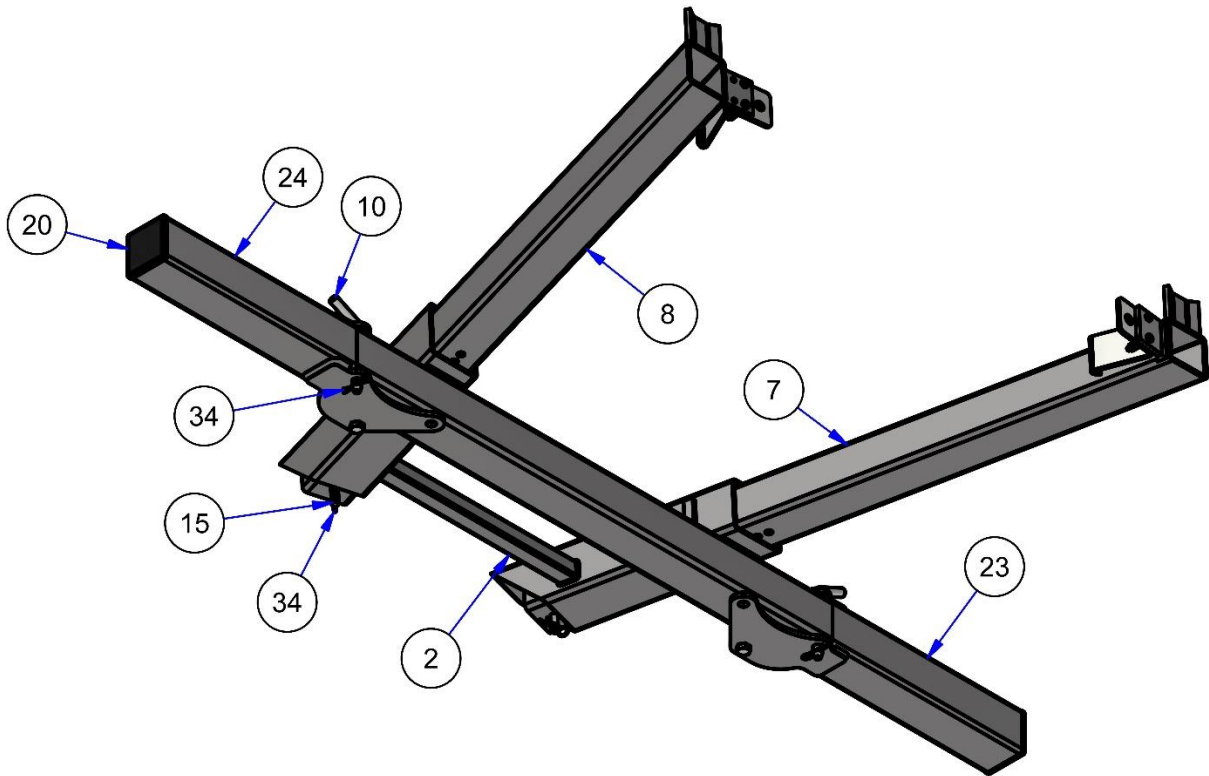

*Figure 19 (Underrun Bar Assembly)*
2. Bolt Items 23 and 24 onto the underrun bar centre (Item 2b) using the four M16 nuts and bolts as shown in Figure 19